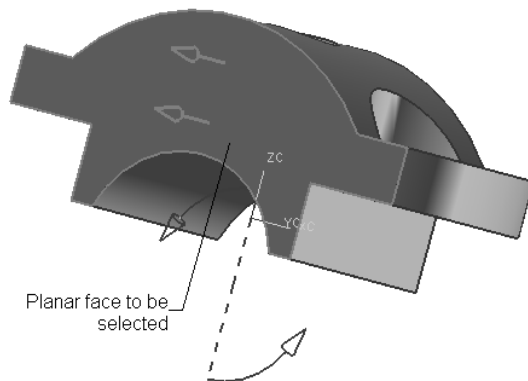
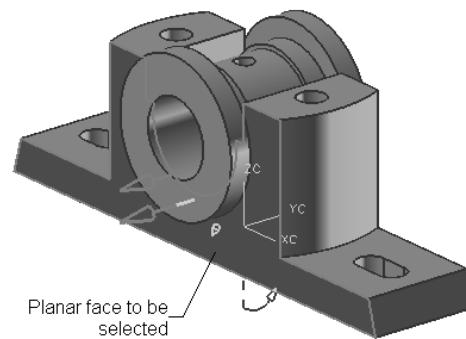

**Figure 8-82** Cylindrical face from the Cap to be selected
**Figure 8-83** Cylindrical face from the Brasses to be selected
- e. Insert the Cap in the assembly window and apply the required assembly constraints, refer to Figures 8-82 through 8-88.
6. Select the cylindrical face from the Cap, as shown in Figure 8-82. Next, select the cylindrical face from the Brasses, as shown in Figure 8-83.